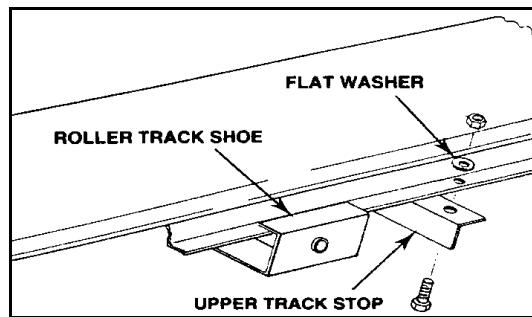

Figure 3.5
- All augers: slide roller trackshoe onto track. Attach the upper angle-iron trackstop with 7/16" x 1-1/4" bolts, heavy flat washers, and locknuts (Figure 3.5). Ensure trackstop is installed in correct position by referring to Table 3.2.